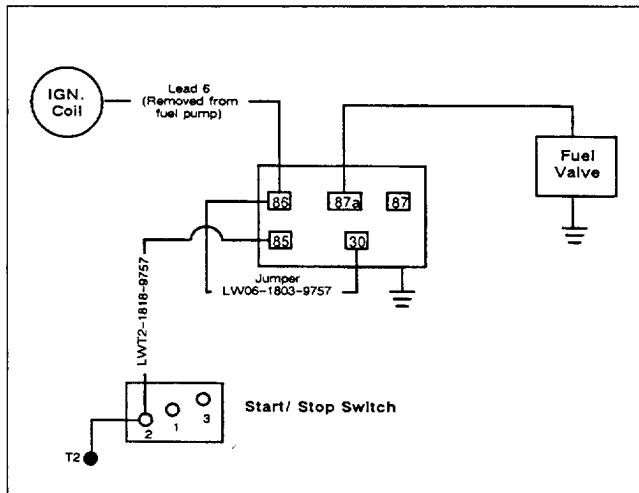

Figure 9. Shutdown Relay Wiring
18. Cut remaining fuel valve lead at length adequate to reach shutdown relay. Attach push-on terminal (X-431-25) to fuel valve lead. Connect lead to shutdown relay terminal 87A. See Figure 9.